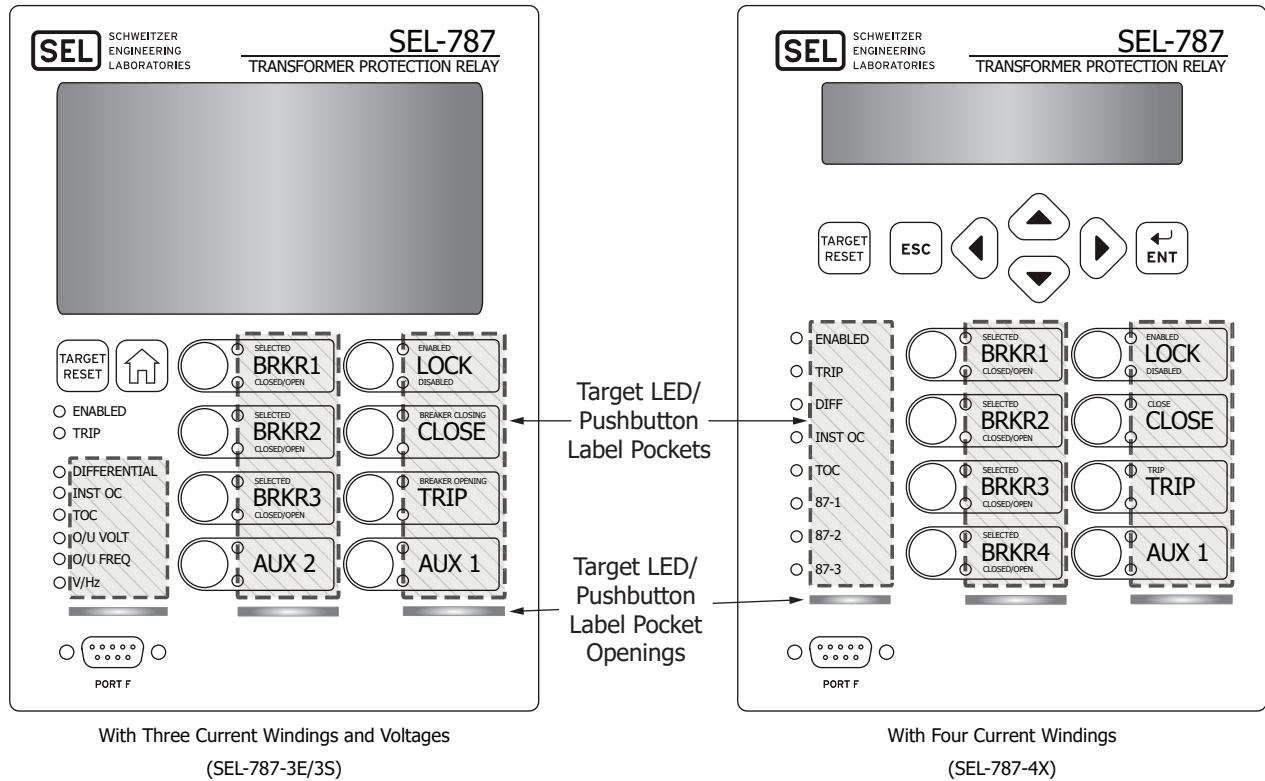

Figure 1 Typical Configurable Label Areas on SEL-700 Series Relays
The SEL-700 Series Industrial Configurable Labels Kit provides the materials and information needed to customize the target LED and operator control pushbutton areas of the front panel. *Figure 1* shows a typical SEL-700 Series relay with pocket areas and openings.
Note that some of the SEL-700 Series Relays have only four pushbuttons instead of the eight pushbuttons shown in *Figure 1*.
- Step 1. Slide the tip of the tool under the label at the pocket opening (see *Figure 1* for example opening locations).